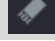

Figure 5-29
- 3) On the timeline, drag to define a period. The Device starts recoding the selected event type in the defined period. See Figure 5-29.